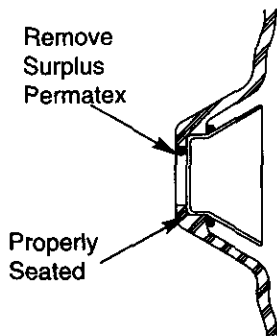

Figure 15
D. Clean out any surplus Permatex from insert cavity where new seal will be located. See Figure 15.